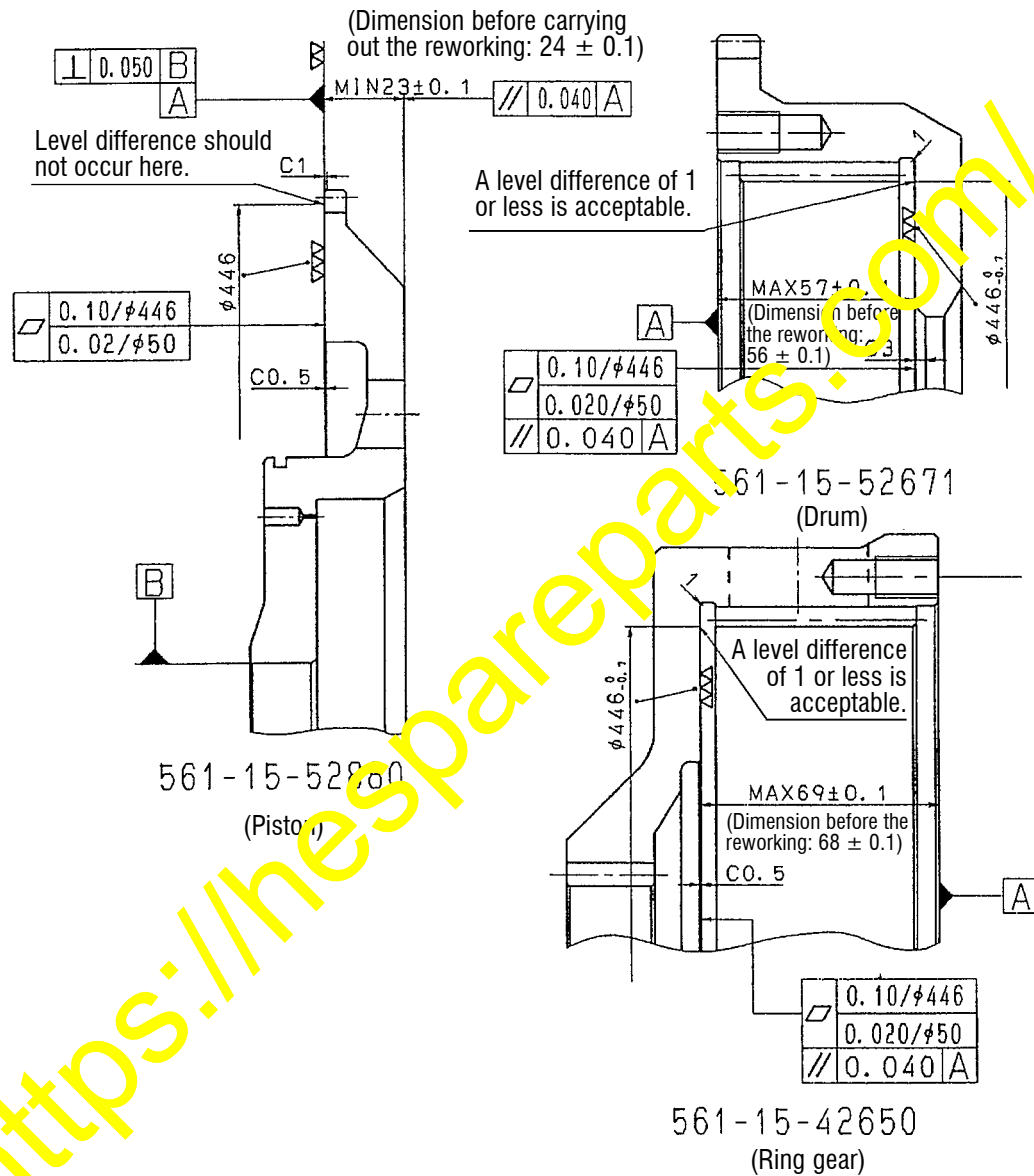

Fig. 5-1. Detailed reworking drawing for the ring gear, piston and drum
- (1) As per the instructions given in Fig. 5-1 shown below, carry out reworking to machine the wave spring sliding surface on the piston (561-15-52880), ring gear (561-15-42650) and drum (561-15-52671) until the stepped-type wear sections will be removed.